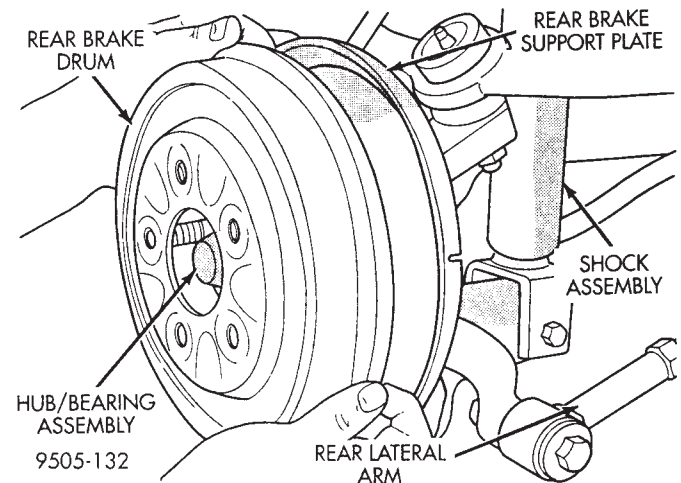
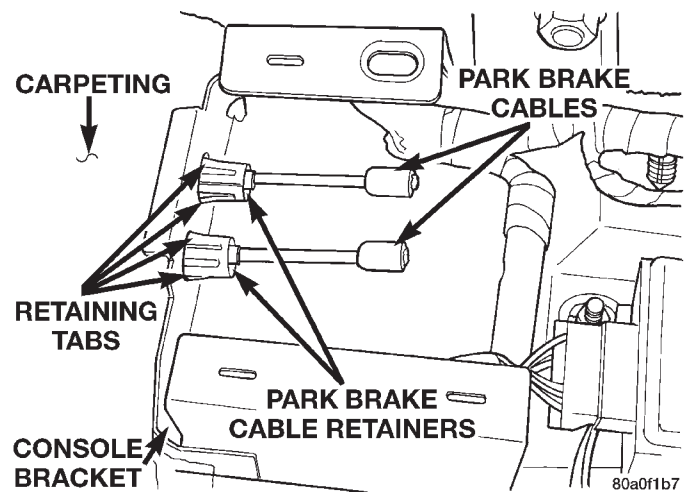

Fig. 140 Rear Brake Drum
Fig. 147 Park Brake Cables Installed In Console Bracket
(19) Raise vehicle on jackstands or centered on a frame contact type hoist. See Hoisting in the Lubrication and Maintenance section of this manual for the required lifting procedure to be used for this vehicle.
(20) Remove rear wheel and tire assembly from the side of the vehicle requiring park brake cable service.
(21) Remove the rear brake drum (Fig. 140) from the rear hub/bearing assembly.
(8) Install the rear brake drum on the hub/bearing assembly (Fig. 140).
(9) Install rear wheel and tire assembly on vehicle. Tighten all wheel stud nuts in criss cross pattern to one-half specified torque. Then repeat pattern, fully tightening stud nuts to 135 N·m (100 ft. lbs.).
(10) Lower vehicle.
(11) Grasp park brake cable to floor pan seal grommet by hand and pull it into the floor pan to ensure seal grommet is fully seated into the floor pan.
(12) Route park brake cable under carpeting and up to park brake cable hole in console bracket on floor pan. Then install park brake cable into console bracket (Fig. 147). Be sure tabs (Fig. 147) on park brake cable retainer, have expanded out to hold park brake cable in console bracket.